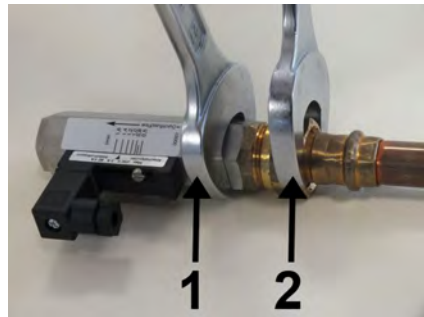

Fig. 11: Screw in the device
2. ➔ Fasten the adapter union of the pipeline with an appropriate spanner (Fig. 11/2). When doing so, lock the process connector in place to prevent slip, using a suitable spanner (Fig. 11/1).